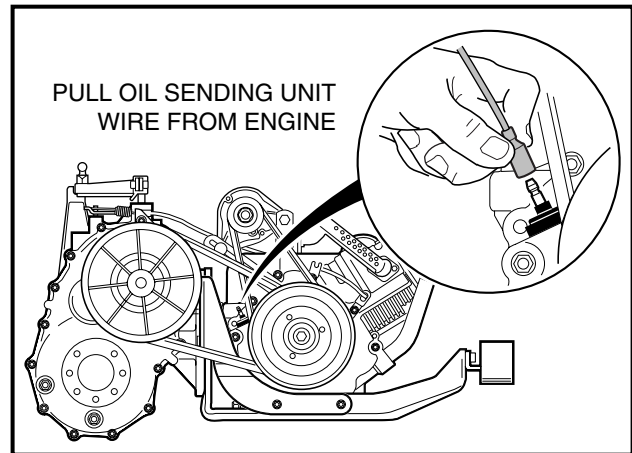

FIGURE 10-18
- 2.9. Disconnect the engine oil level sending unit wire (18 gauge yellow) from the sending unit located on the engine, beneath the starter/generator (**Figure 10-18**).